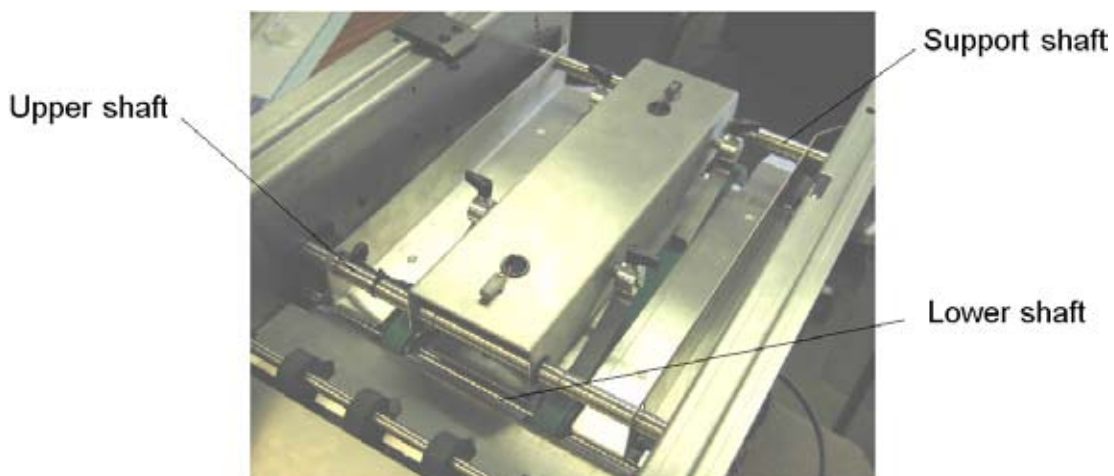

Fig. 12
3. On the RH side, remove the flanged bearing/waved washer on the lower shaft and the screw from the upper and support shafts (see Fig. 12 below).